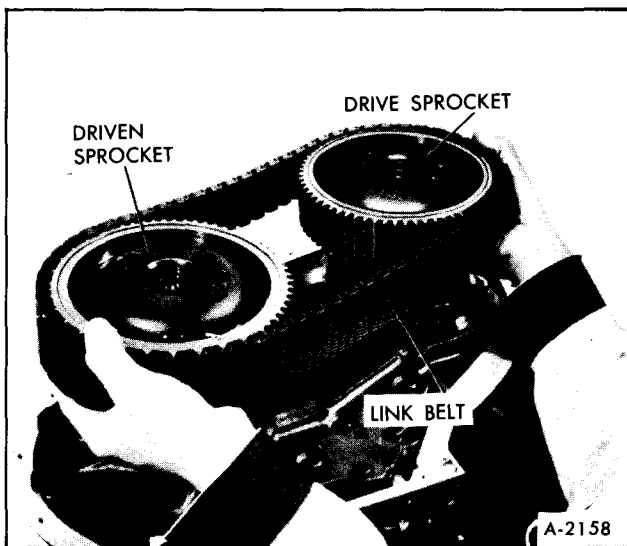

Figure 32—Removing Sprocket & Link Assembly
4. Remove drive and driven sprockets, link assembly, bearings, and shafts simultaneously by alternately pulling upwards on the drive and driven sprockets until the bearings are out of the drive and driven support housings, Figure 32.